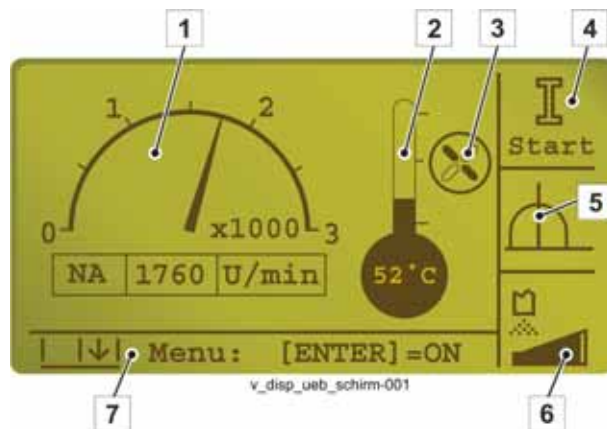

Fig. 75 Start screen
"LOCAL" operating mode active! Field (5) (Fig. 75) on the display shows this symbol.
While the "Local" operating mode is active, the following symbols may be displayed in field (4) on the start screen (Fig. 75).